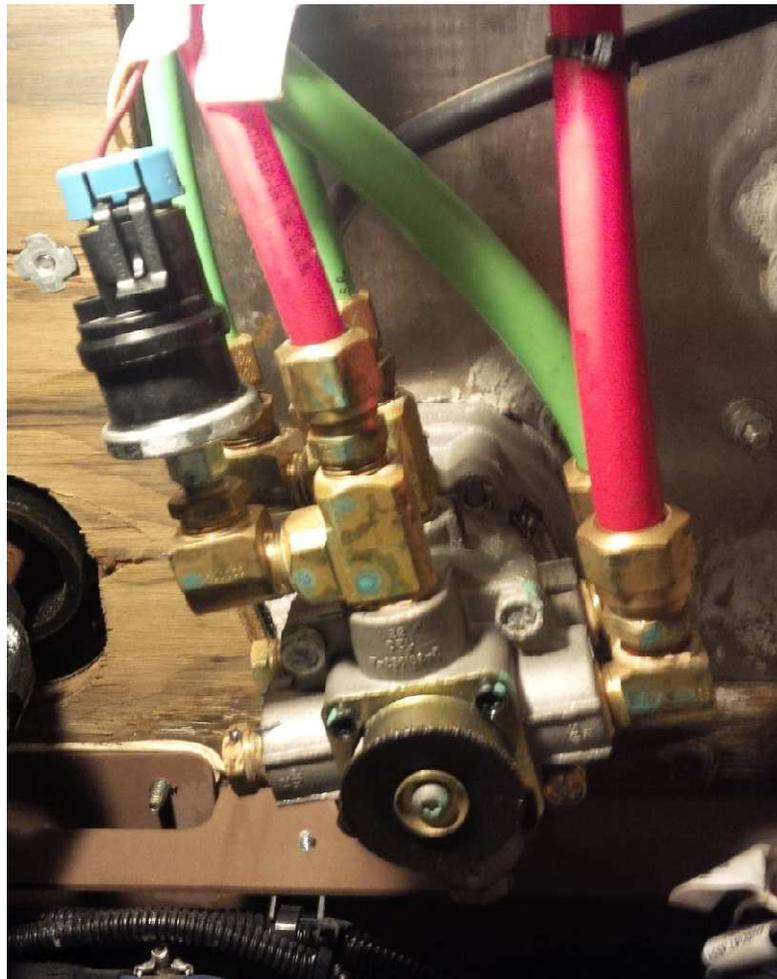

Figure 1: Brake Treadle Valve Assembly
4. Location the brake treadle valve assembly, see Figure 1.
5. Disconnect all air lines from E6 and BVA valve, see Figure 1.
6. Disconnect the electrical harness from the pressure switch, see Figure 1.